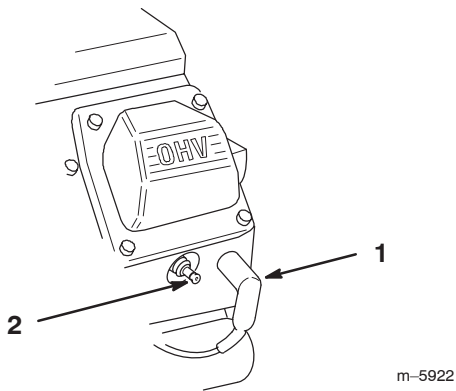

Figure 42
- Pull the wires off of the spark plugs (Fig. 42).
- Push the wires onto the spark plugs (Fig. 42).